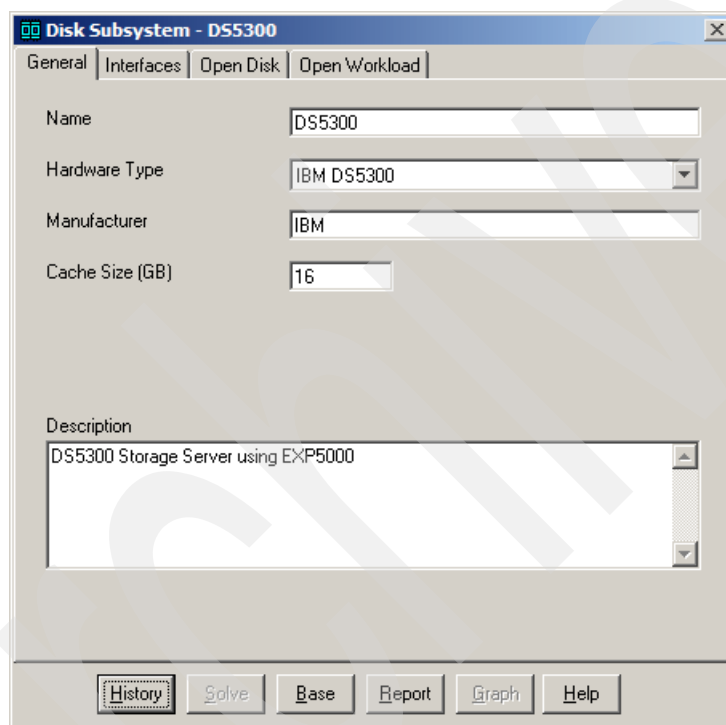

Figure 10-24 Storage subsystem General tab
- The *General* tab allows you to enter Disk Subsystem level configuration data, such as the brand and type of subsystem and cache size. You can rename the disk subsystem and set the appropriate type, as shown in Figure 10-24.